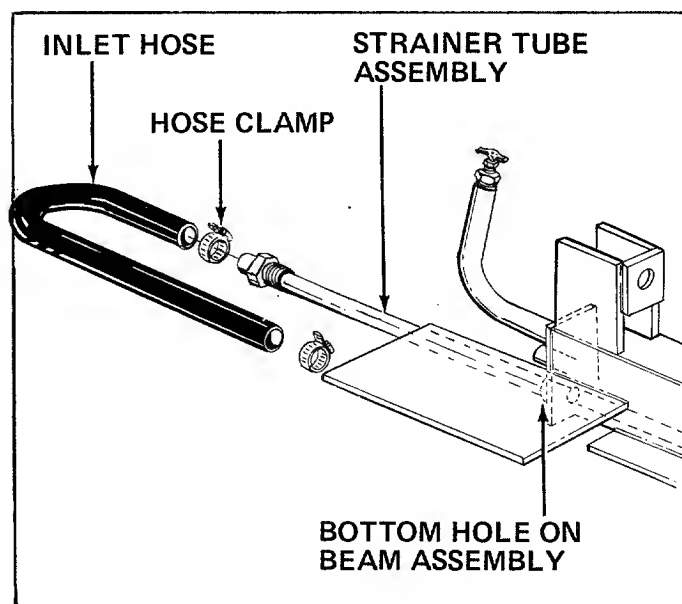

FIGURE 25
2. Pull off inlet hose from strainer tube assembly and catch oil in a suitable container. See figure 25.
3. With an adjustable wrench remove the strainer tube assembly. See figure 25.